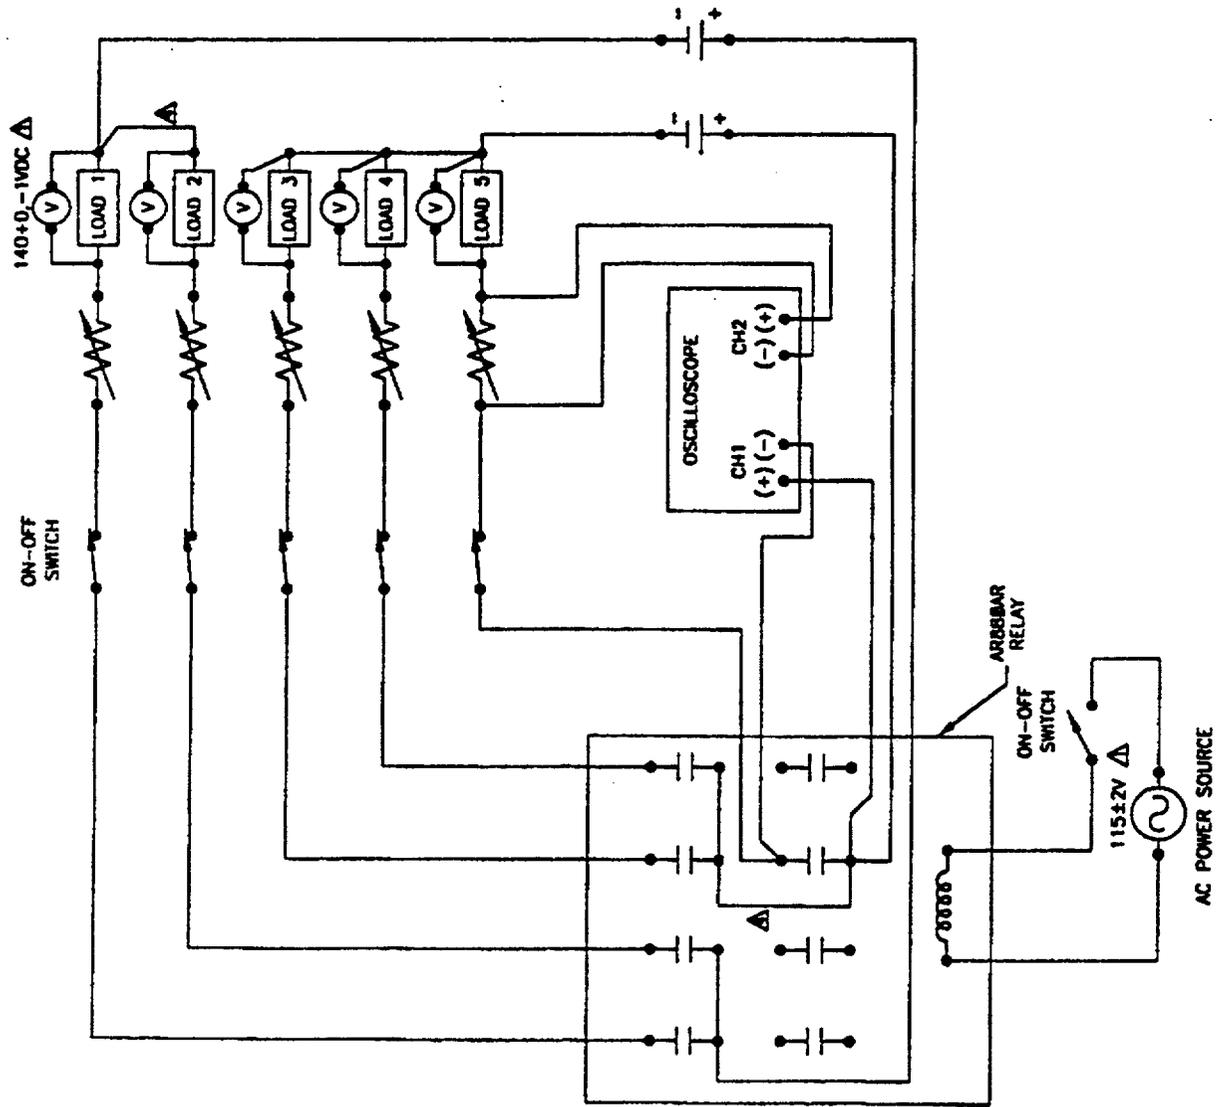

Figure 3.2 Test #2-AR88BAR AC Relay Cycling Test Circuit
- 3.2.1 This test is for the AR880AR relay. Set up the test circuit as shown in Figure 3.2. The voltage across Loads 1 thru 5 is 140Vdc +0, -1Vdc. Adjust the DC source to achieve the voltage.